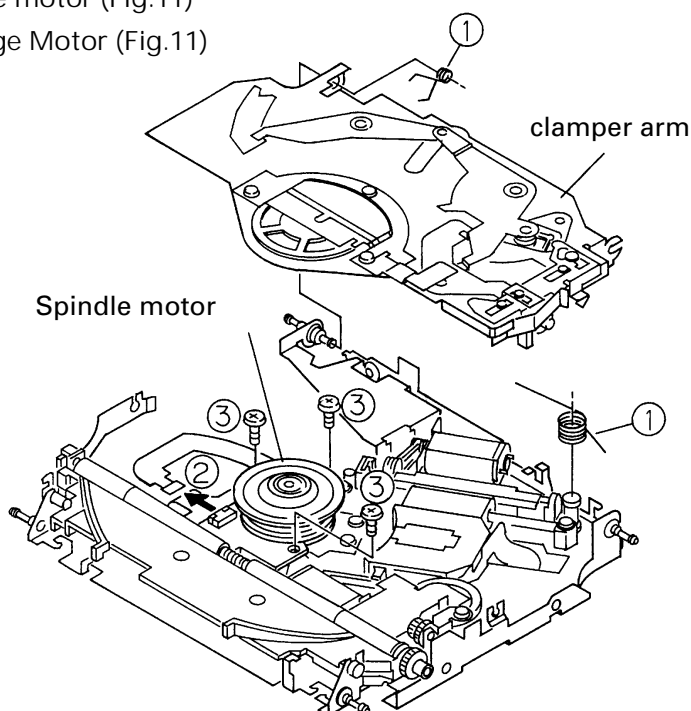

Fig.11
- Removing the spindle motor (Fig.11)
- Removing the Carriage Motor (Fig.11)